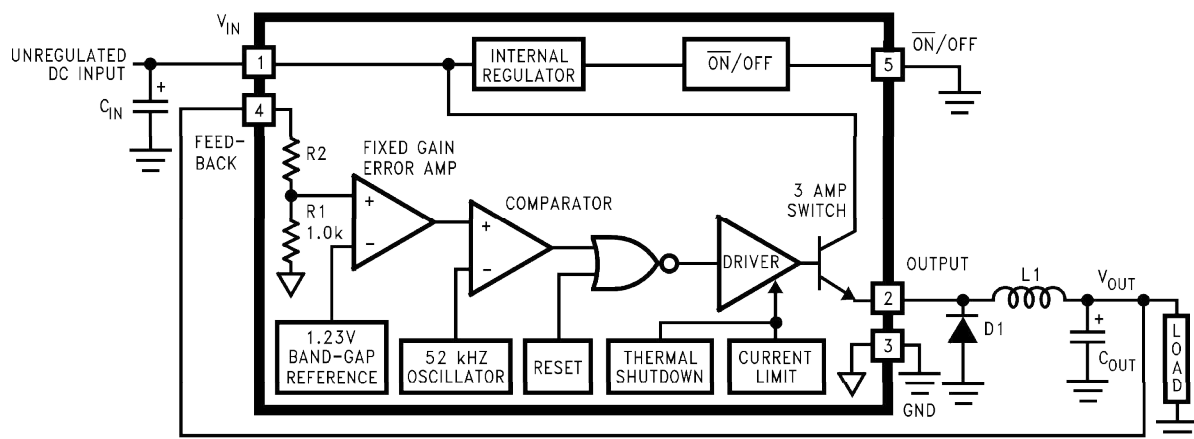

Fig 2
**Note 3:** External components such as the catch diode, inductor, input and output capacitors can affect switching regulator system performance. When the MXT2576 is used as shown in the *Figure 2* test circuit, system performance will be as shown in system parameters section of Electrical Characteristics.